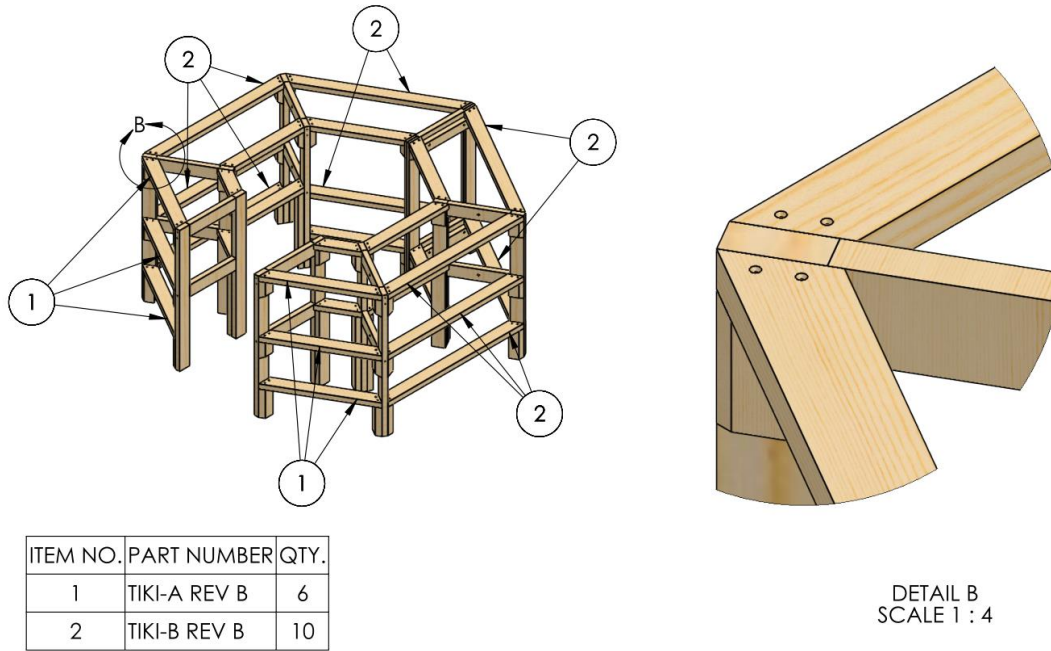

Figure 3
3) Set all outside cross bars in place as shown in Figure 3.